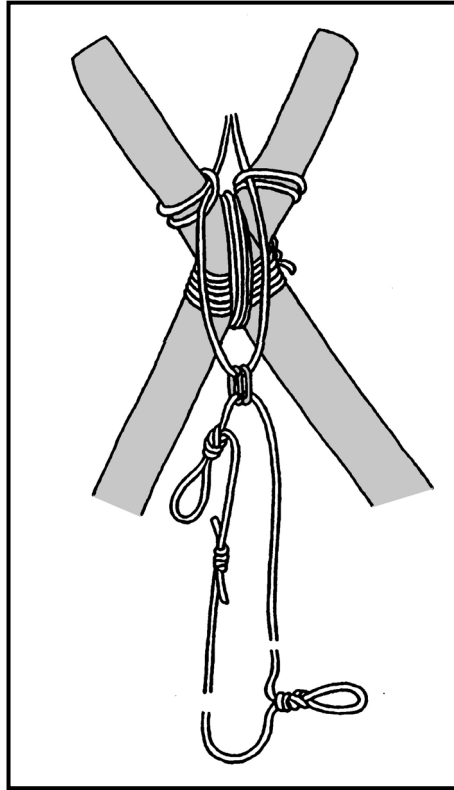

Figure 7-25. Attaching the anchor rope to the A-frame.
a. To maintain the 12-inch bight, tie clove hitches above the A-frame lashing on each side of the apex with the installation rope, ensuring that the locking bars of the clove hitches are on the inside. Ensure that the portion of the rope that forms the bight comes out of the bottom of the clove hitch. (See Figure 7-25.)